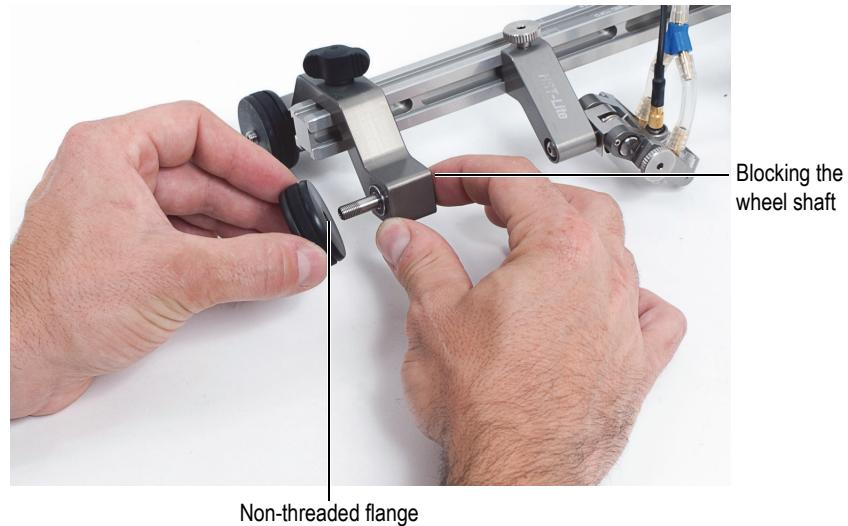

Figure 1-20 Installing a replacement wheel
2. Unscrew the wheel manually, and then remove the wheel (see Figure 1-20 on page 33).